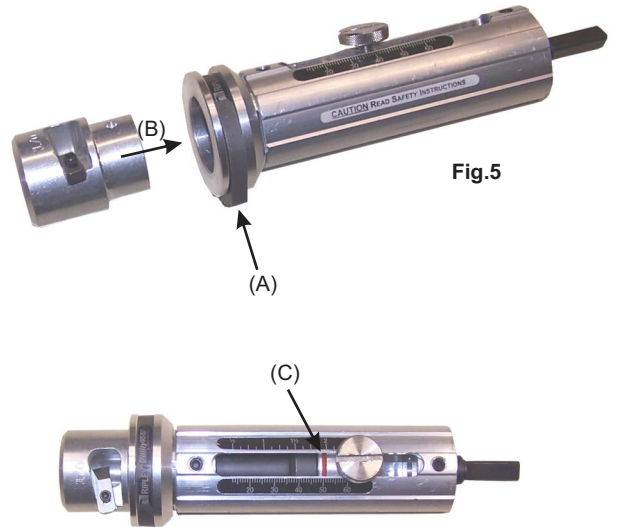

Fig.5
1. As shown in Fig 5, push the quick release collar upward (A) to disengage the internal lock pin. Insert the selected bushing into the tool (B), with the bushing cross hole aligned with the lock pin. Release the collar to lock the bushing into the tool. Ensure the lock pin engages the cross hole in the bushing.
2. Set the desired strip length by aligning the red band (C) to scale mark.